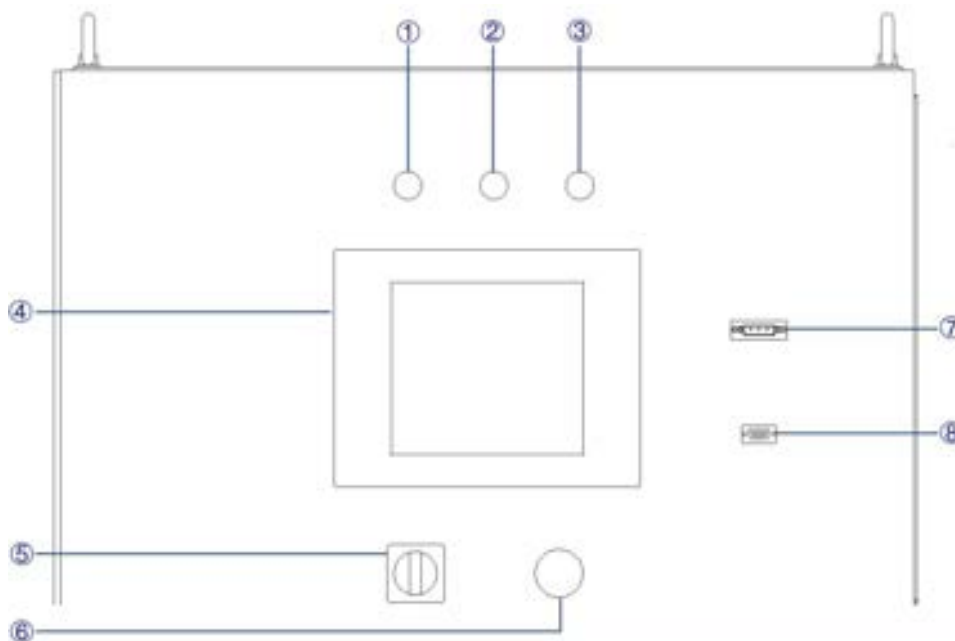

Figure 1-13 Front panel of the power supply
The RS232 interface is located on the front panel of power supply (Figure 1-13⑧).